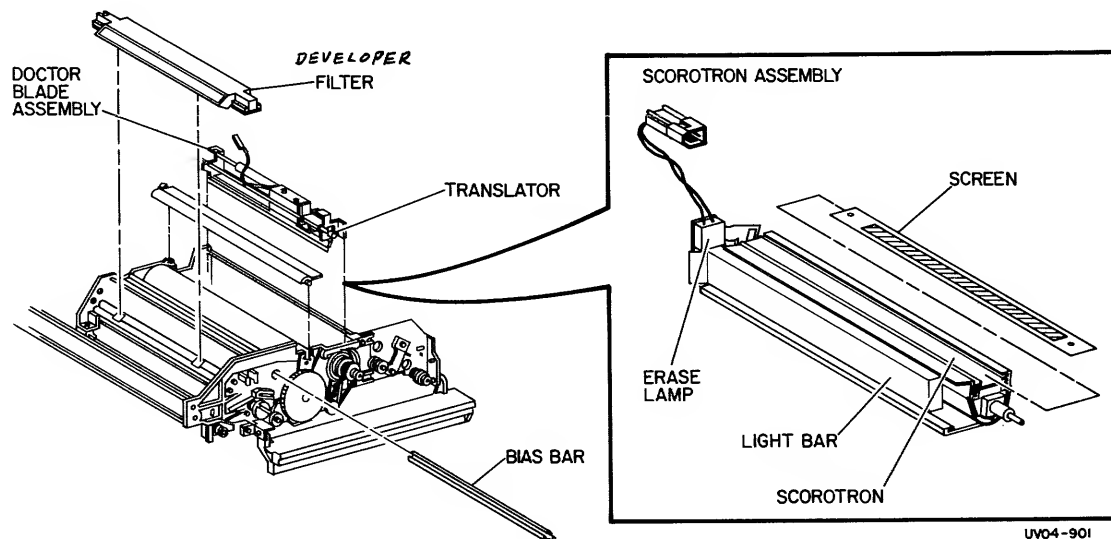

Figure 3-1. Drum Module Components
2. Replace the Developer Filter (Figure 3-1).
4. Apply a small amount of Film Remover (US), Step 2 Wash (RX) to a cleaning pad and wipe the Scorotron Shield, Screen, Wire, and Light Bar.
6. Remove the Doctor Blade Assembly (3-22) and use Film Remover (US), Step 2 Wash (RX) to clean: